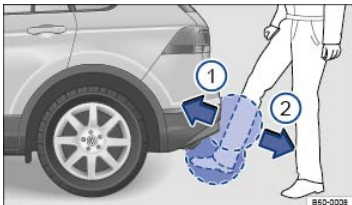

Fig. 66 Keyless Access locking and starting system: Opening the sensor-controlled trunk lid (Easy Open).
- Move your foot under the middle of the rear bumper in a kicking motion ⇒ Fig. 66, ① then ② (arrows).